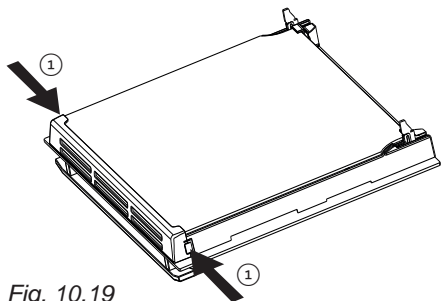

Fig. 10.19
- Touch the glass retainer tabs in on both sides of the door and remove the glass retainer (fig. 10.19, 10.20).